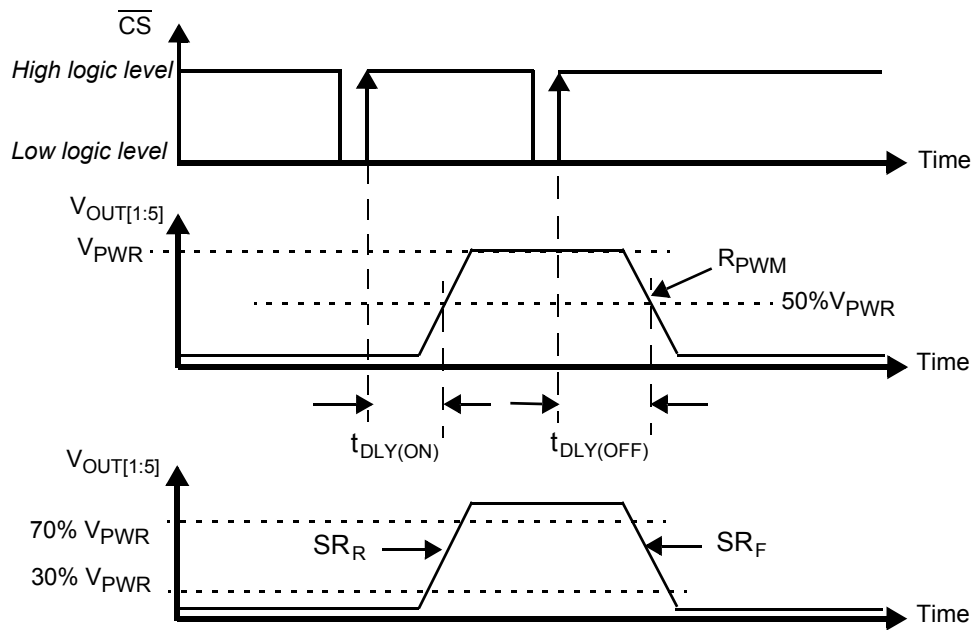

Figure 6. Output Slew Rate and Time Delays
40. The PWM ratio is measured at  $V_{OUT} = 50\%$  of  $V_{BAT}$  in nominal range of PWM frequency. It is possible to put the device fully on (PWM duty cycle = 100%) and fully off (PWM duty cycle = 0%). Between 4%-96%, OCHI1,2, OCLO and open load are available in ON state. See Figure 6. Output Slew Rate and Time Delays.